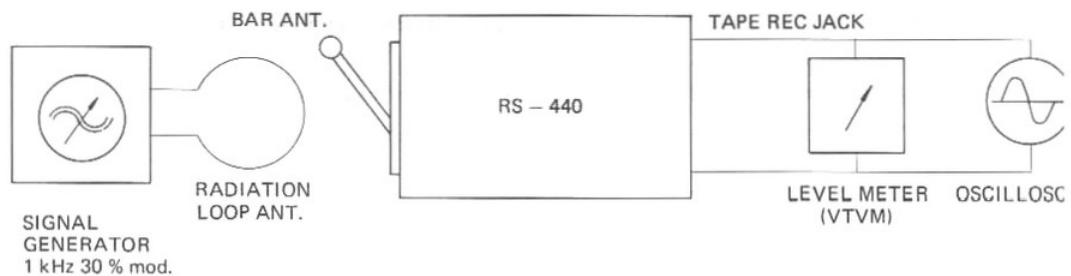

Figure 2. AM FRONT END ALIGNMENT SETUP
- 2) Connect the test equipment to RS-440 as shown in Figure 2.